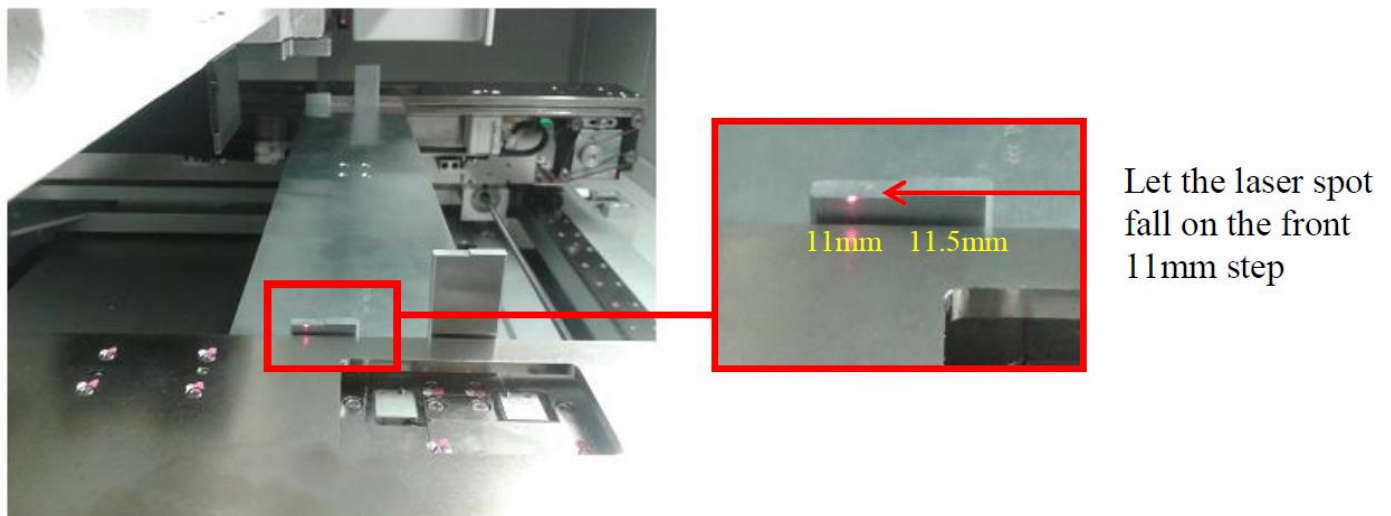

Figure 36 11μm filter height sensor
28. Turn the coupling slowly until Filter Height Sensor Laser align parallel with the 11μm jig height as shown in the Figure 36.